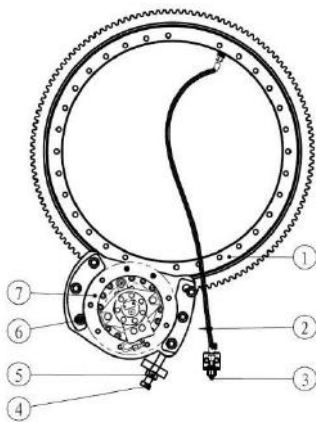

Figure 1-1 Slewing mechanism
- 2) Fill the slewing support and slewing gear with grease every 100 hours. Frequent lubrication of the slewing ring is necessary to maintain good equipment performance and maintenance life. Incorrect lubrication can lead to component damage. As shown in Fig. 1-1, find the grease filler 3 on the side of the slewing reducer, connect the grease filling machine, and rotate the rotary table several times while injecting the grease until the grease overflows from the upper and lower fixed surfaces of the slewing ring.